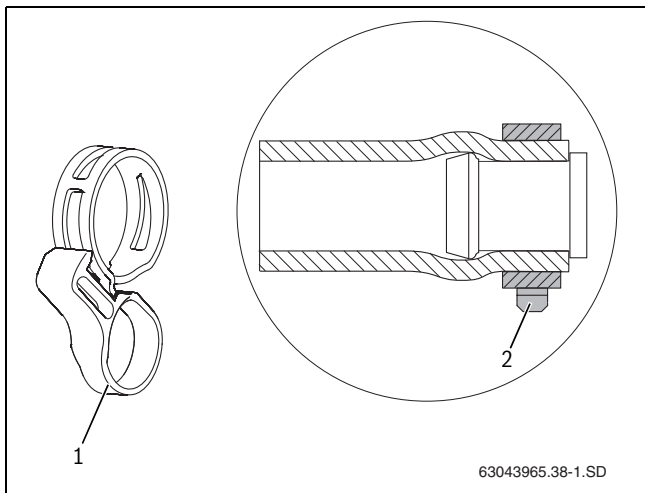

Fig. 32 Hose clip with locking ring fixed to the pre-assembled dummy plug
- It is very important that the hose clip is positioned correctly before removing the locking ring (Fig. 32, itm 1 and 2). Subsequent loosening using pliers can impair resilience.